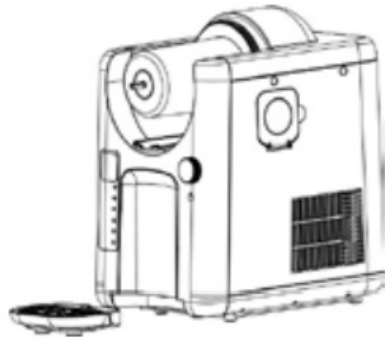

Fig. 1
8. Slide the drip tray at the bottom of the appliance (Fig. 1).